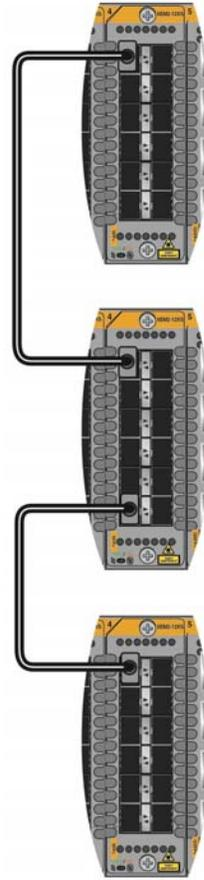

Figure 16. Stack of Three Switches with a Linear Trunk
- ❑ You can omit the link from the last to first switches to create a linear trunk. An example of a stack with three switches in a linear trunk is shown in Figure 16. This trunk topology is not recommended.